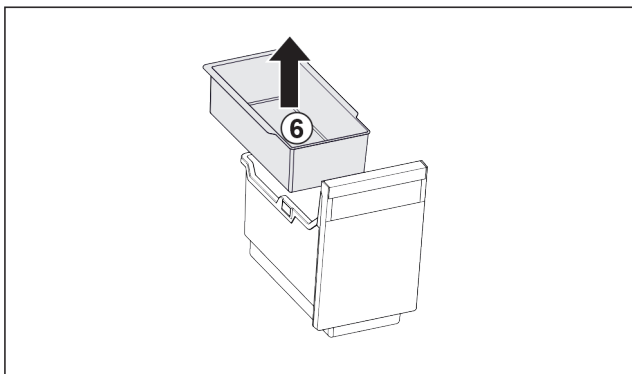

Fig. 33
- ▶ Remove the hang-on tray Fig. 33 (6).